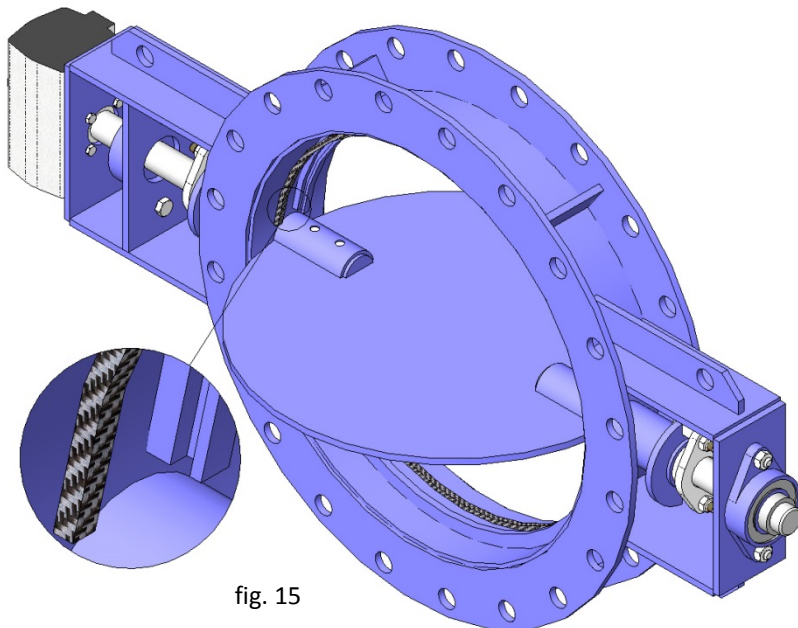

fig. 15
4. Extract the two sealing strips (10) using a pointed instrument (fig. 15). One of these seals is in front of the rim and the other behind the other rim.